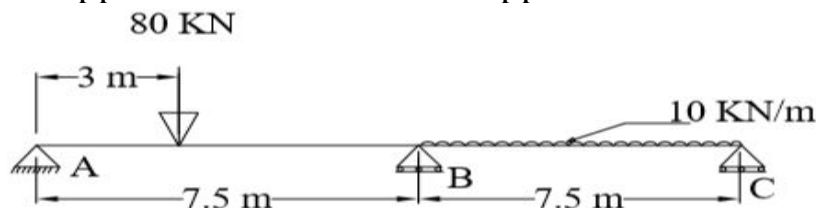

Fig.8
6. (a) A continuous beam ABC given in Fig.8, 15 m long is carried on supports at its end and is propped at the same level at points 7.5 m from left end A. It carries a concentrated load of 80 kN at 3.0 m from A and uniformly distributed load of 10 kN/m run over the span BC. Using three-moment equations, calculate bending moment and support reactions at three supports. Assume EI is constant.